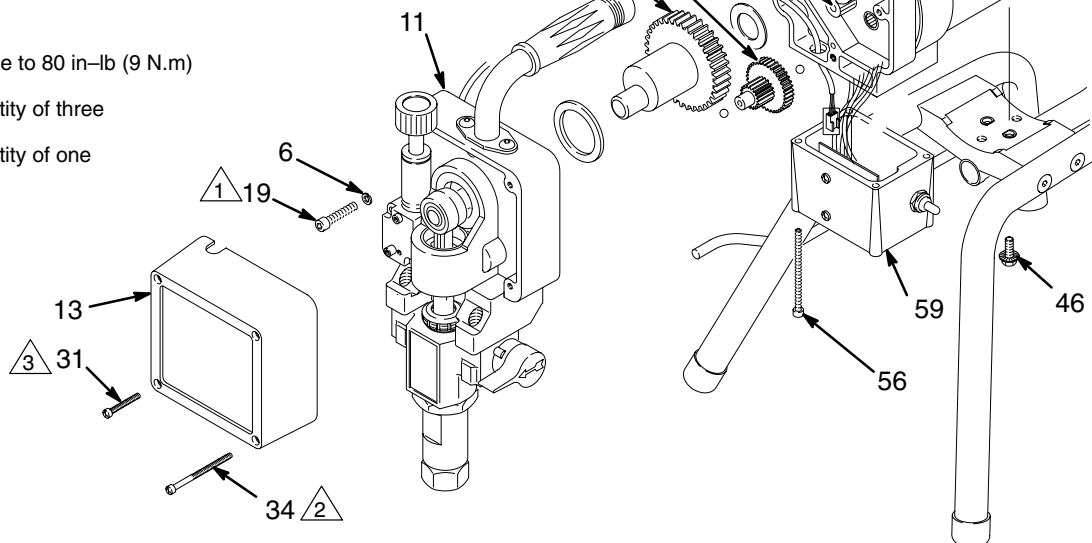
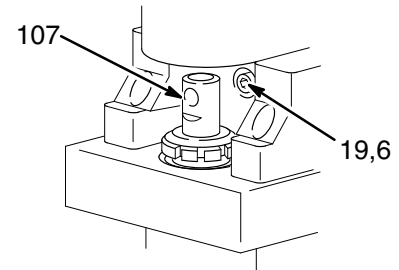
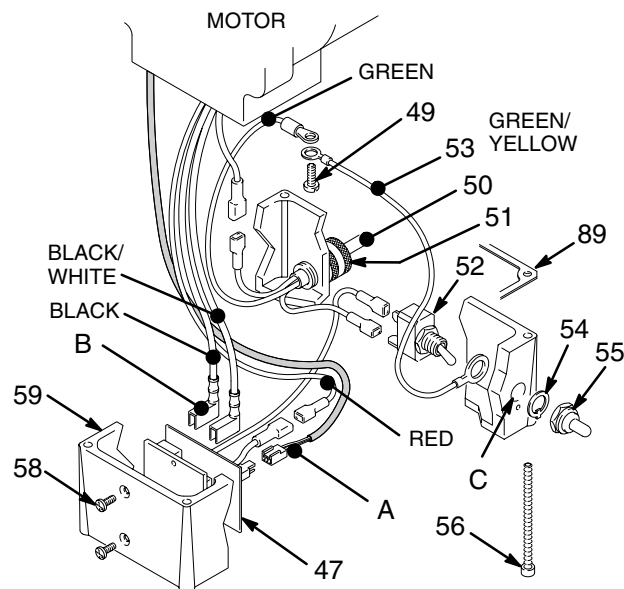

Fig. 25
Fig. 24
Fig. 26
NOTE: See Fig. 25 except where noted.
3. Remove the screws (56) and lower the junction box (59). Disconnect the motor wires and the pressure control wire (A) from the motor start board. Refer to Fig. 26 on page 26.
4. Remove the front cover (13).
5. Turn the displacement pump rod (107) so the pin hole aligns with the bottom drive housing screw (19). See Fig. 24. Remove the three drive housing screws and lockwashers (19,6). Also see Fig. 25.
6. Remove the two motor screws (5) and the lock washers (6).
7. Tap the lower rear of the drive housing (11) with a plastic mallet to loosen the motor. Pull the drive housing straight off the motor while guiding the harness (A) from the motor. Do not allow the gear (16) to fall. Read the CAUTION on page 27.
8. Remove the two screws (46) and lift the motor off the base (66).
9. Align the new motor with the base and reinstall the screws (46).
11. Connect the wires in the junction box. Refer to Fig. 26 on page 26. Install the junction box.
12. Connect the piston rod (107) to the drive housing; see page 21, **Installing the Pump**, Step 2 and the **WARNING** following it.
NOTE: See Fig. 26 for this procedure.